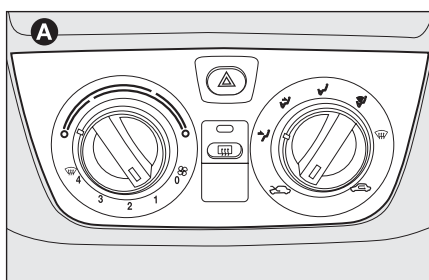

fig. 5
- ☐ with heater **A**-**fig. 5**;